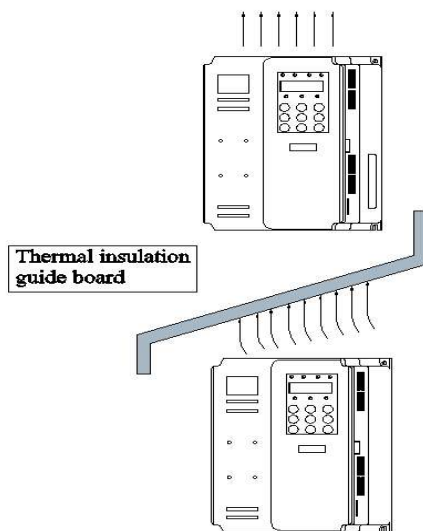

Fig. 3-2 Upper and lower installation drawing of thermal insulation guide board
- 2) Please conduct vertical installation of Frequency Inverter to help heat dissipation upwards. If there are many frequency converts in the cabinet, please install them in parallel. For the occasion where upper and lower installation is required, please see Fig. 3-2 and install thermal insulation guide board.